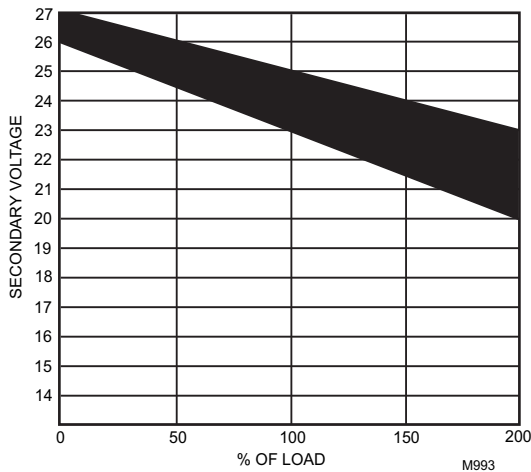

Fig. 10. NEMA Class 2 transformer voltage output limits.
This means that four volts are going to be lost between the transformer and the controller. To assure the controller receives at least 20 volts, the transformer must output more than 24 volts. Because all transformer output voltage levels depend on the size of the connected load, a larger transformer outputs a higher voltage than a smaller one for a given load. Fig. 10 shows this voltage load dependence.
In the preceding $I \times R$ loss example, even though the controller load is only 37 VA, a standard 40 VA transformer is not sufficient due to the line-loss. Looking at Fig. 10, a 40 VA transformer is just under 100 percent loaded (for the 37 VA controller) and has a secondary voltage of 22.9 volts. (Use the lower edge of the shaded zone in Fig. 10 that represents the worst case conditions.) When the $I \times R$ loss of four volts is subtracted, only 18.9 volts reaches the controller. This is not enough voltage for proper operation.
1. Use a larger transformer. For example, if an 80 VA model is used, an output of 24.4 volts, minus the four volt line-loss, supplies 20.4V to the controller (see Fig. 10). Although acceptable, the four-volt line-loss in this example is higher than recommended.
To meet the National Electrical Manufacturers Association (NEMA) standards, a transformer must stay within the NEMA limits. The chart in Fig. 10 shows the required limits at various loads.